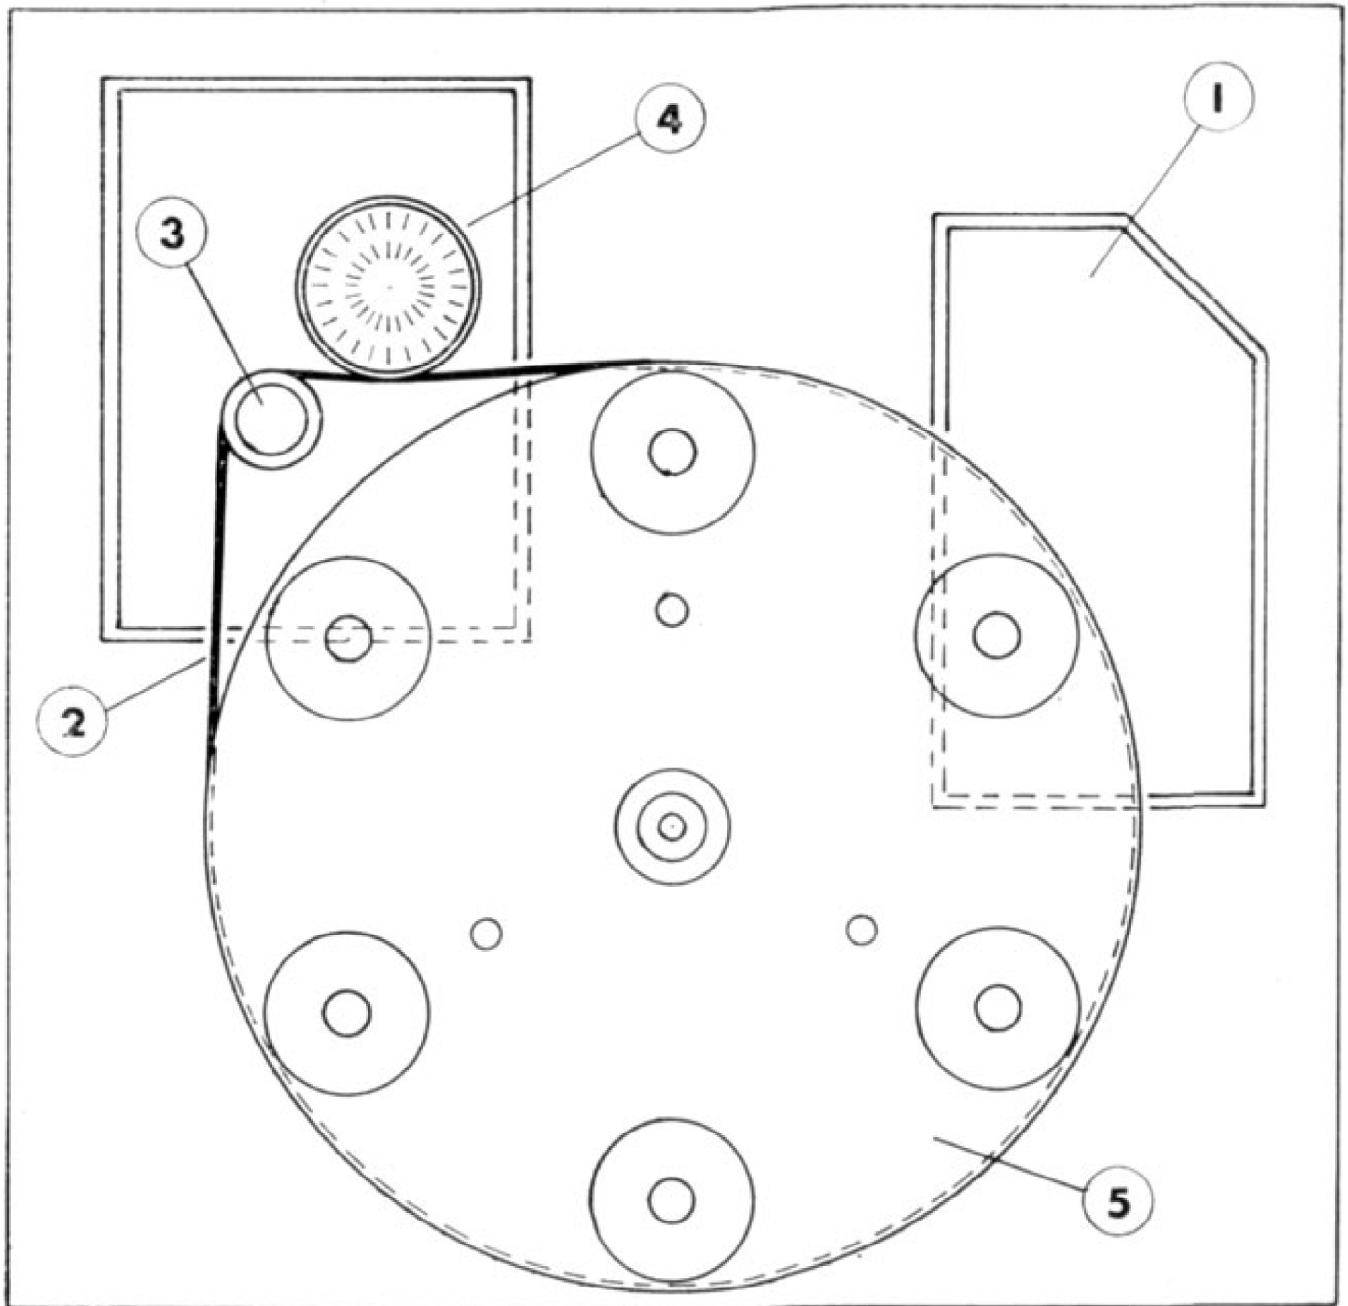
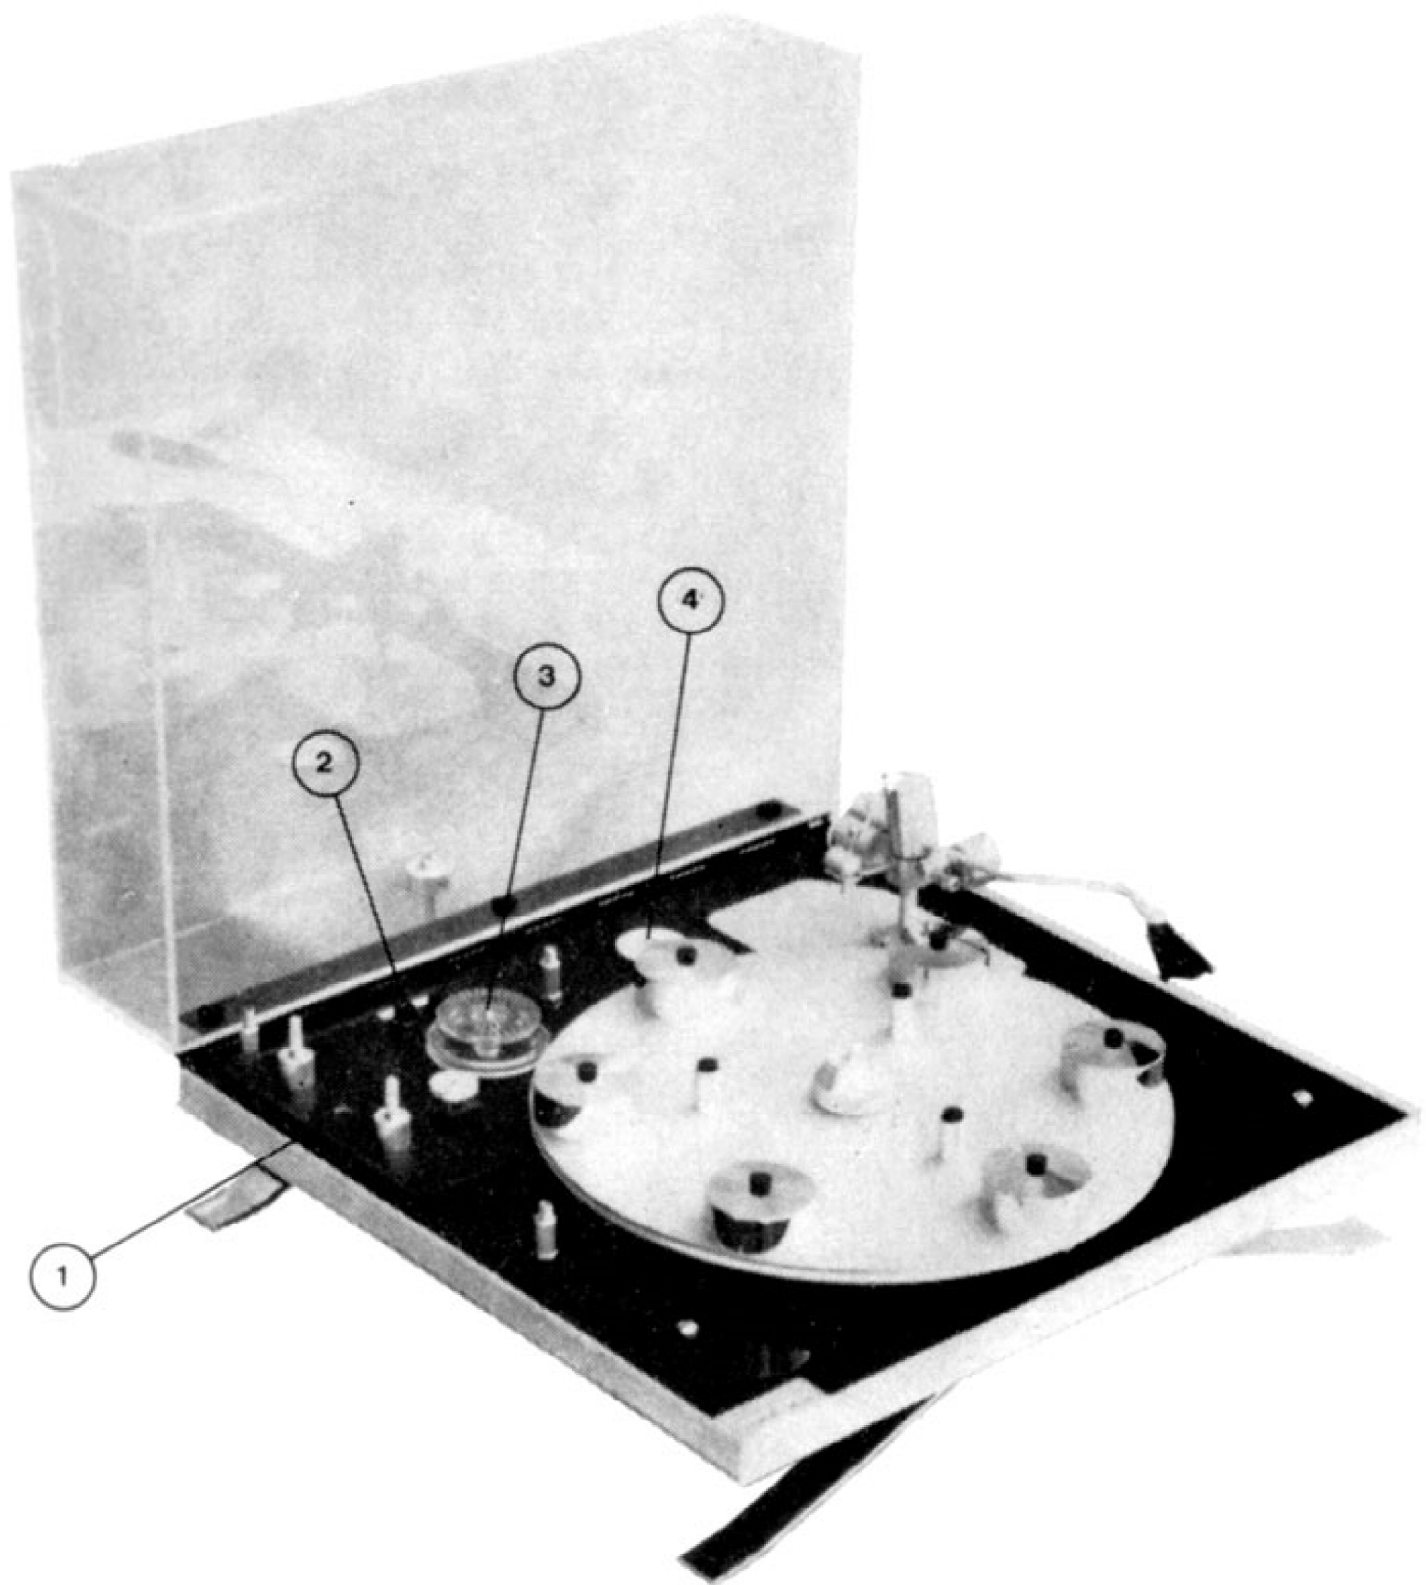
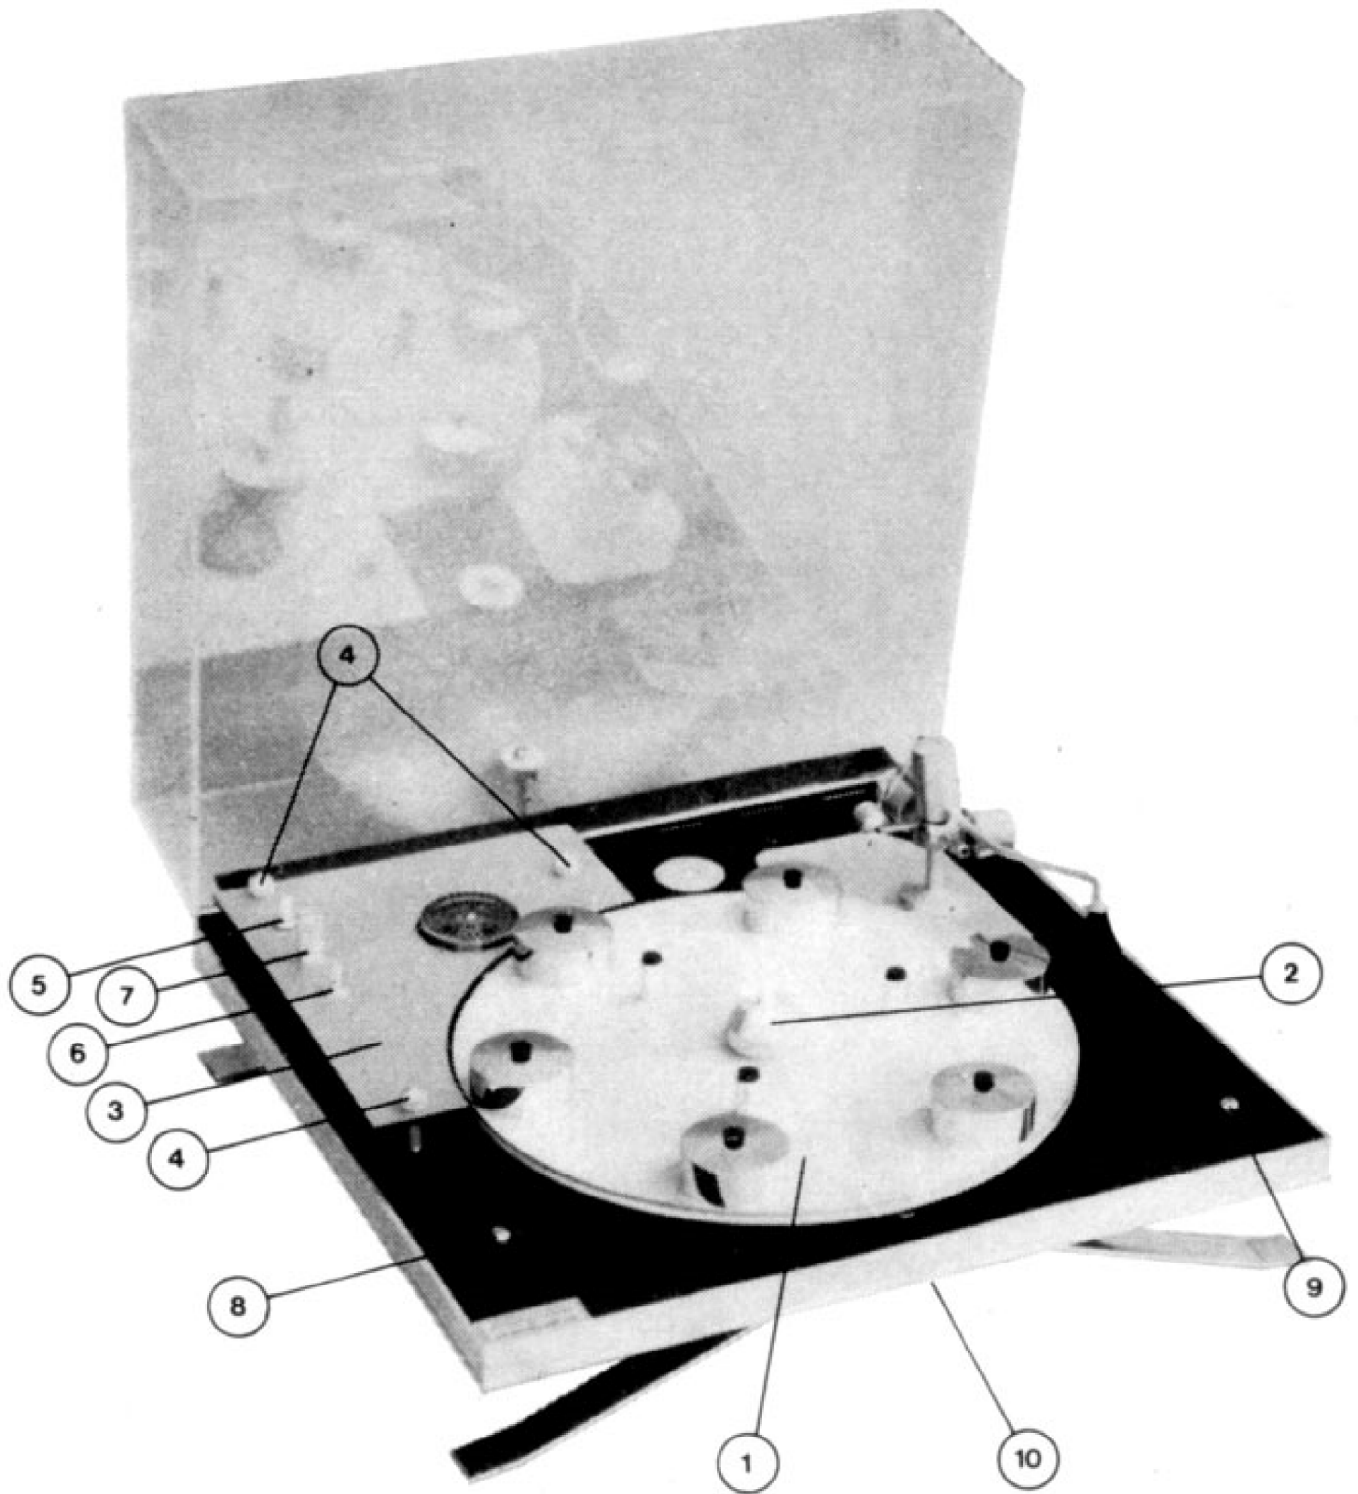
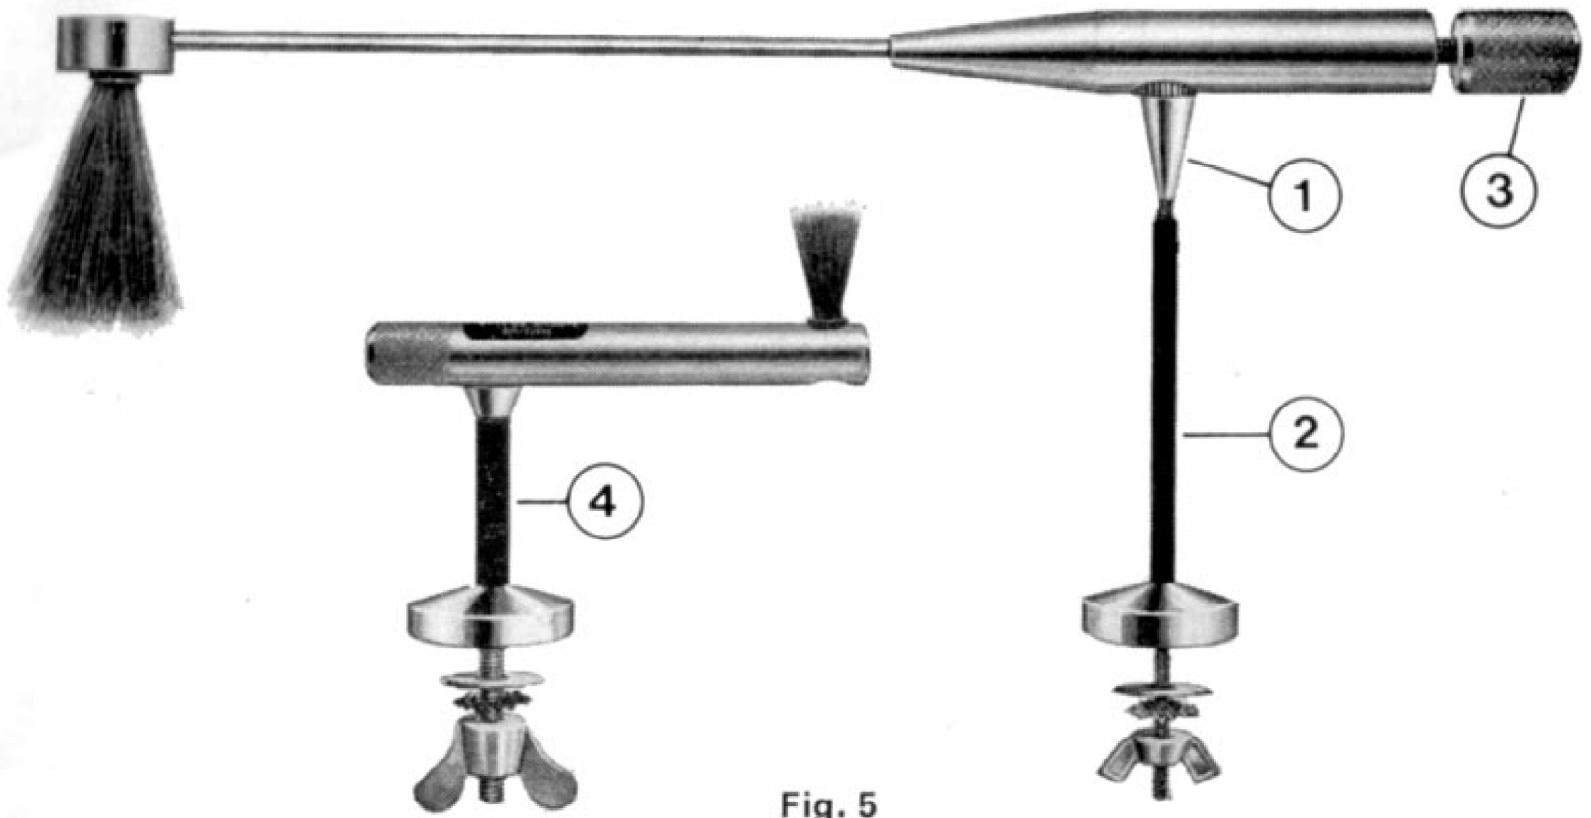

Fig. 2
Fig. 3
Fig. 4
Fig. 5
- 2** Secure the platter, fig. 4(1), to the centre bearing with the knurled retaining nut, fig. 4(2), after first ensuring that the mating surfaces are clean.
- 3** Check that the drive and control module is correctly seated in the motorboard, fig. 3(1).
- 4** Lightly oil the stroboscope spindle and then fit the stroboscope, fig. 3(3), onto its bearing.
- 5** Fit the drive belt, fig. 2(2).
- 6** Ensure that the mains fuse link, fig. 3(2) has been set for the correct voltage (red spot holder active, plain holder dummy) and that a fuse of the correct rating has been fitted.
- 7** Assemble the top plate, fig. 4(3), onto the unit and secure it with the three retaining nuts, fig. 4(4).
- 8** Level the unit by means of the two knurled adjusting nuts, fig. 4(10), using the level indicator, fig. 3(5). This task will be eased if the weight is taken off the legs during adjustment.
If the sweep arm (fig. 5) has not been fitted by the manufacturer, a pre-drilled fixing hole blanked off with a chromium screw, fig. 4(8), will be found on the left hand side of the motorboard. Remove this screw, insert the sweep arm support rod and secure with its wing nut under the motorboard.
- 1 Slacken the conical lifting nut, fig. 5(1), and place the brush on the record.
- 2 Ensure that the brush is running vertically whilst in use. If necessary make a slight adjustment to the height of the brush by trimming away part of the plastic sheathing, fig. 5(2), around the support rod with a sharp knife or razor blade, and then tightening the securing nut under the motorboard.
If the stylus brush (fig. 5) has not been fitted by the manufacturer, a pre-drilled hole blanked off with a chromium screw, fig. 4(9), will be found on the right hand side of the motorboard. Remove this screw, insert the stylus brush support rod and secure with its wing nut under the motorboard.
The stylus assembly should pass through the brush about half-way up its length. If necessary, adjust the brush height by trimming away part of the plastic sheathing, fig. 5(4), around the support rod with a sharp knife or razor blade, and then tightening the securing nut under the motorboard.
The turntable drive is switched on or off and speed changed by rotating the central knob, fig. 4(7) on the top plate. 90° clockwise
Fine speed control is adjusted independently for each speed via two small knurled knobs, fig. 4(5) and 4(6), set one each side of the main control knob. The knob towards the back of the top plate, fig. 4(5) governs the 45 r.p.m. setting ; the one at the front, fig. 4(6), the $33\frac{1}{3}$ r.p.m. setting.
When using the Sweep Arm always ensure that there is a gap between the main beam and the top of the conical lifter nut, fig. 5(1). To park the Sweep Arm when not in use, simply screw the conical nut up again.
- 1** Periodically examine the drive belt, fig. 2(2), for signs of perishing or cracking. Renew if necessary.
- 2** Every 12 months, lightly oil the stroboscope and main bearings (use a sewing machine oil, or similar). Access to the main bearing is obtained by removing the platter, fig. 4(1). Re-adjust fine speed control as necessary.
NOTE : To remove the platter, remove belt, fig. 2(2) ; unscrew platter retaining nut, fig. 4(2), then, placing fingers of both hands beneath rim and one thumb on main bearing spindle, lift with fingers and press down on main bearing spindle.
Key to Fig. 2
Key to Fig. 3
Key to Fig. 4
Key to Fig. 5